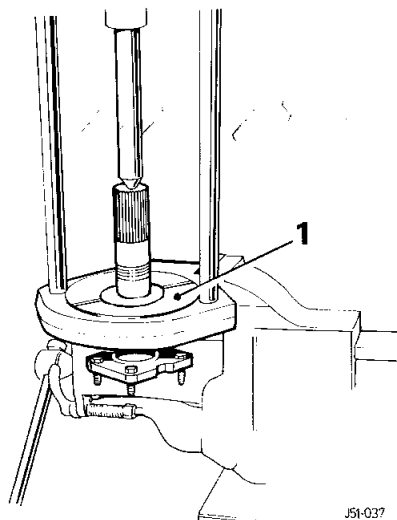

Fig. 14
**NOTE:** If outer bearing remains on shaft and pushes oil seal out of caliper mounting bracket on withdrawal, remove it from shaft using tool SL 47-3/1, 47 (1, Fig. 14).